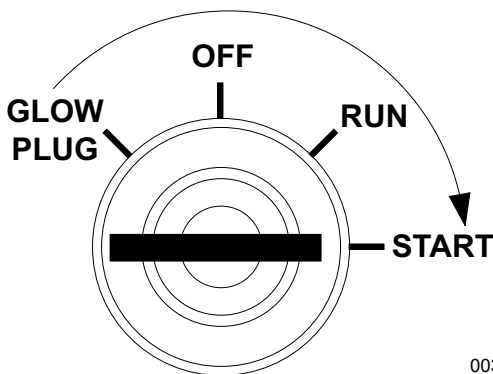

Figure 3-6. Crank Engine
- See Figure 3-6. Turn the key to the right START position and hold it until the engine cranks and starts running.